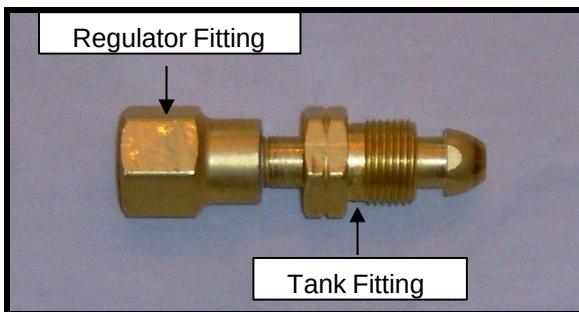

Figure 1
Head Equipment Kit have a Male right-hand thread Nut (CGA-580). A CGA-590 Industrial Air Cylinder-to-CGA-580 Nitrogen Regulator Cylinder Adapter is therefore required to connect the Pressure Regulators to the Tank fitting. One (1) Cylinder Adapter is required for each Pressure Regulator used. **See Fig. 1.**